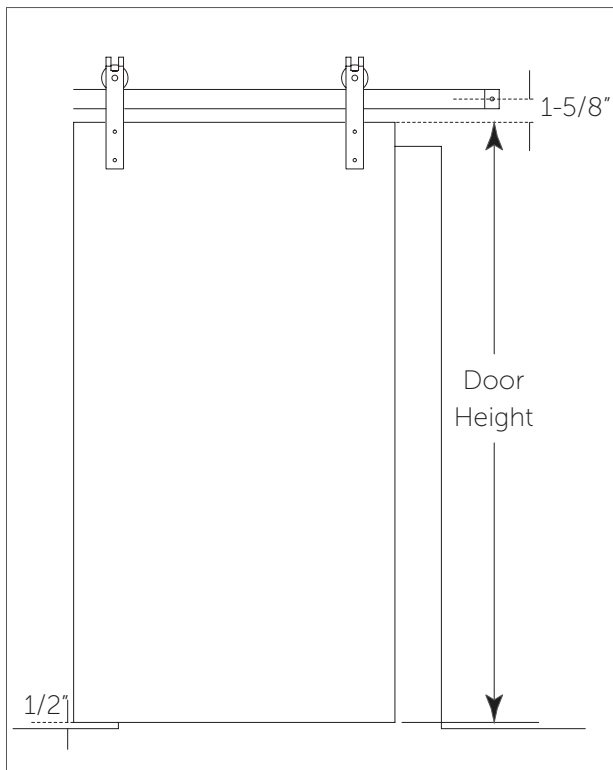

Figure 1
1. To determine where the track should be installed, first measure the height of the door, then add 2-1/4" to the door height. 1/2" of this total will be for the clearance between the bottom edge of the door and the floor. 1-5/8" will be from the top edge of the door to the center of the track. (Figure 1).